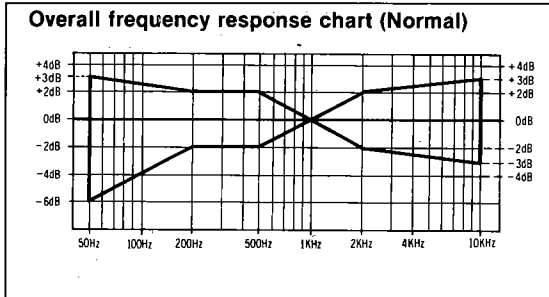
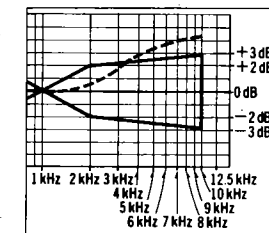
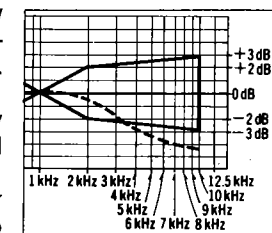

Fig. 10
Fig. 12
Fig. 13
6. Playback the signals recorded in step 5, and check if the frequency response curve is within the limits shown in the overall frequency response chart for normal tapes (fig. 10). (If the curve is within the charted specifications, proceed to steps 7, 8 and 9.) If the curve is not within the charted specifications, adjust as follows;
When the curve exceeds the overall specified frequency response chart (fig. 10) as shown in fig. 12.
- 2) Repeat steps 5 and 6 for confirmation (Proceed to steps 7, 8 and 9 if the curve is now within the charted specifications as shown fig. 10.)
- 3) If the curve still exceeds the specifications (fig. 10), increase bias current further and repeat steps 5 and 6.
When the curve falls below the overall specified frequency response chart (fig. 10) as shown in fig. 13.
- 3) If the curve still falls below the charted specifications (fig. 10), reduce bias current further and repeat steps 5 and 6.